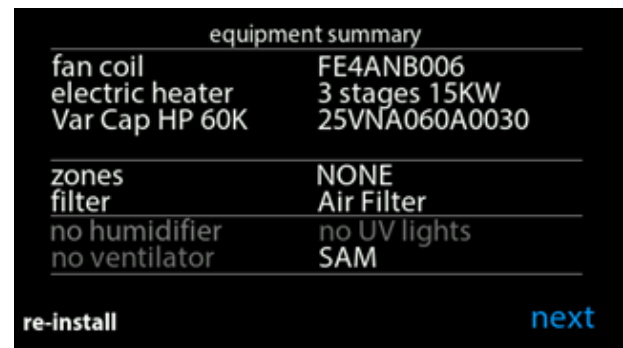

Fig. 10 – Equipment Summary Screen
1. After system is evacuated, close the disconnects to energize indoor unit, outdoor unit, and User Interface (UI). Do not attempt to operate the system in heating or cooling mode at this time. Mode: OFF. Vapor and liquid line service valves should be fully closed.
3. If the user interface is new then the UI will proceed through a series of setup screens. Proceed through these setup screens until the equipment summary screen is reached (see Fig. 10). Verify that the correct equipment is shown on this screen. If the installed indoor unit is a furnace coil verify that this has been selected. The UI will then proceed through an airflow verification test and then return to the main screen.